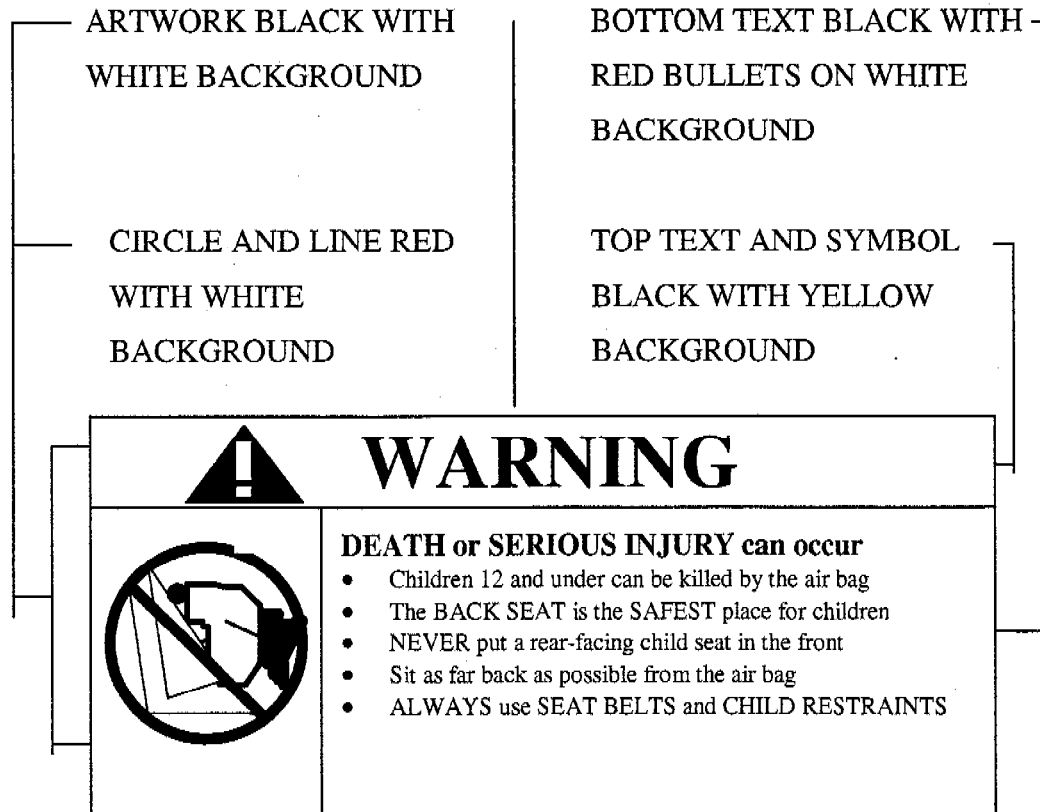

Figure 6a
- 4.2 Does the label conform in content (vehicles without back seats may omit the statement: **"The BACK SEAT is the SAFEST place for children."**) (S4.5.1(b)(2)(v)) to the label shown in either Figure 6a or 6b as appropriate at each front outboard seating position with an air bag? (S4.5.1(b)(2))
- 4.2.2.1 Does the label conform on content to the label shown in either Figure 6a or 6b as appropriate?
- 4.2.2.2 Does the label conform in content to the label shown in Figure 6a where the label can be modified to omit the pictogram and the message may read: